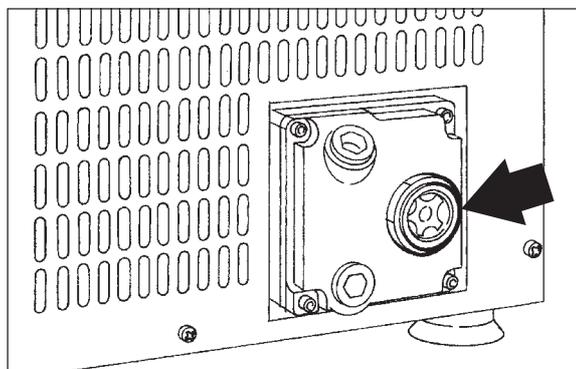

Fig. 1
- c) Check the oil level in the pump through the glass window provided on it (Fig. 1).